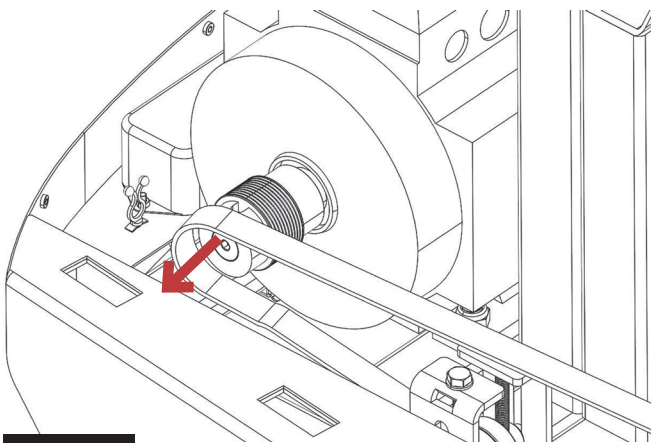

FIGURE 6
8. Remove belt from motor belt wheel, see fig: 6